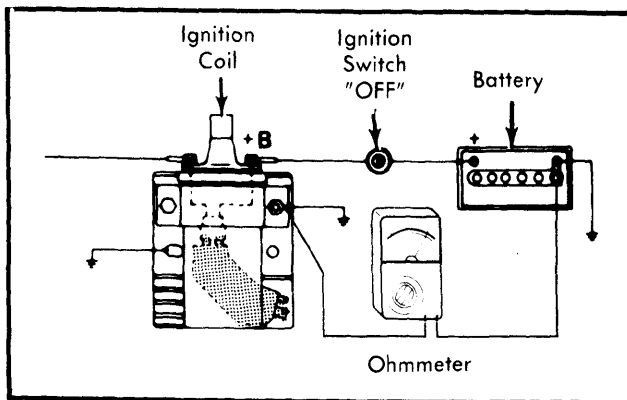

Fig. 4 Ohmmeter Hookup for Ground Circuit Check
1) Turn ignition switch "OFF". Connect ohmmeter leads to battery ground terminal and ignition coil ground stud. See Fig. 4.